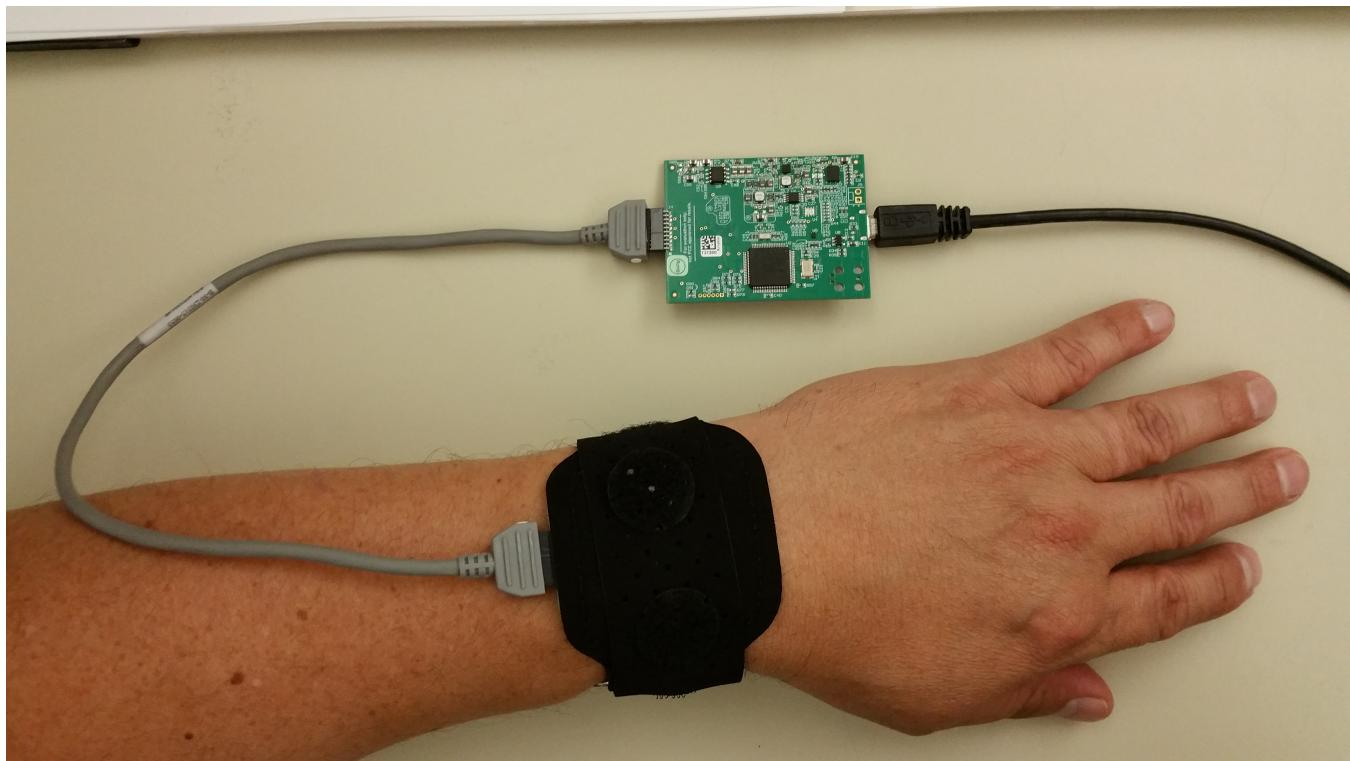
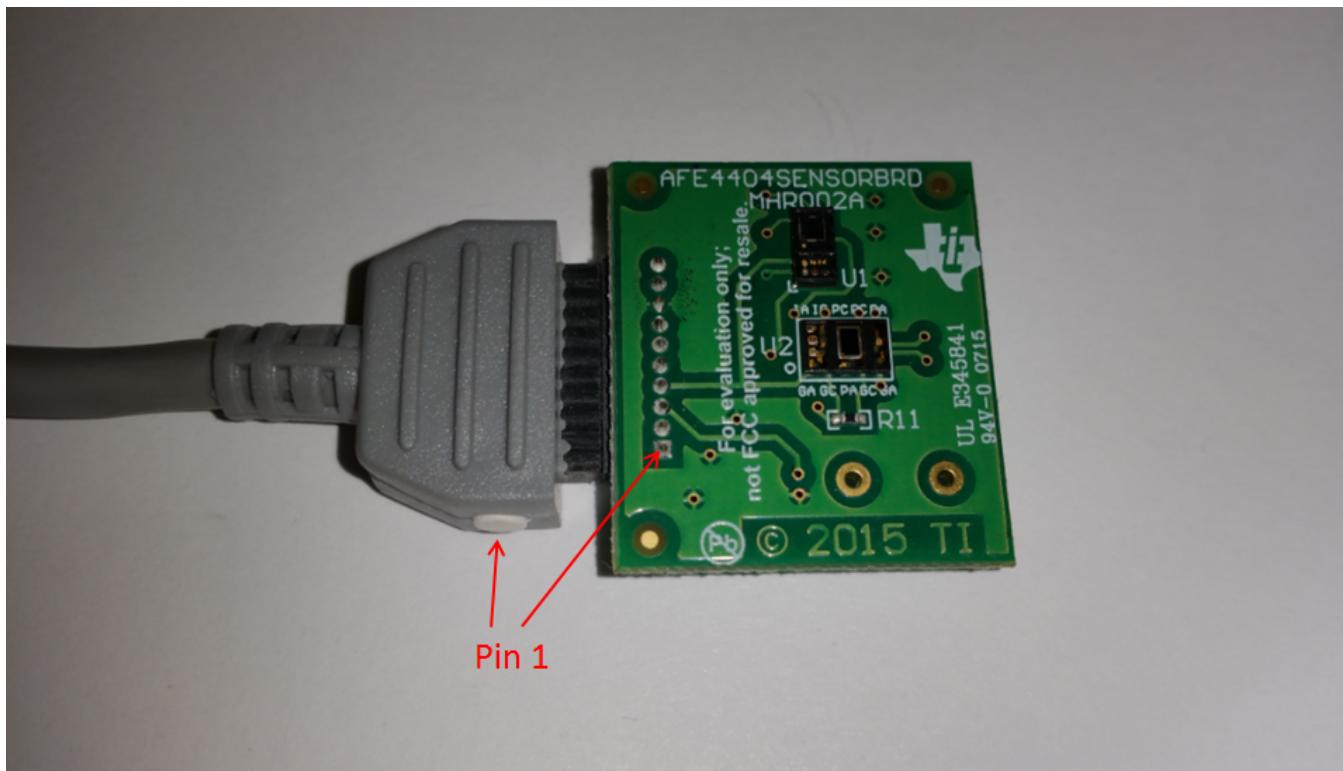
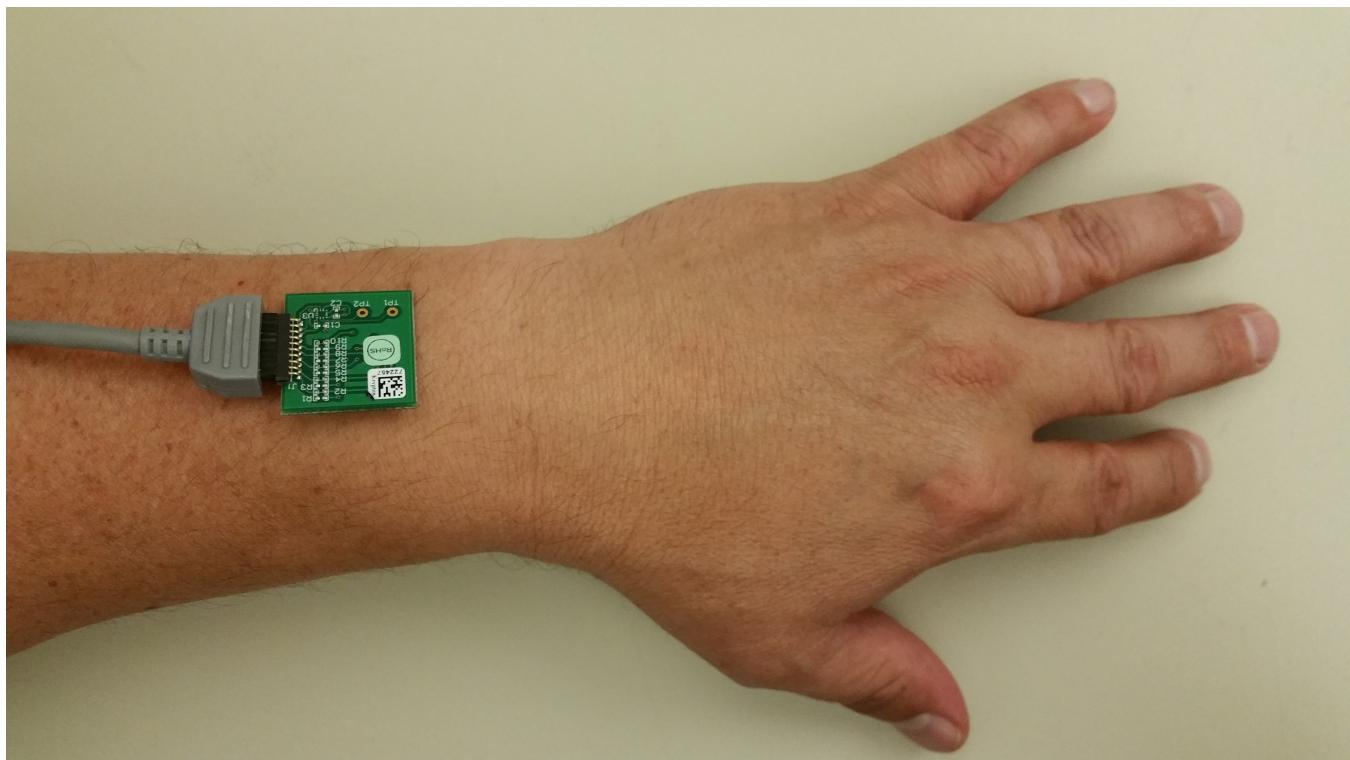

Figure 3. Setup for Obtaining Measurements from the Wrist
Figure 4. Pin 1 Connections
Figure 7. Setting Sensor Board on the wrist
- (c) Place the sensor side of the sensor board on the wrist and tie it snugly. Figure 3 shows the sensor board being held with a velcro strap. Holding the sensor down with a finger is not recommended because a high level of motion noise is likely to occur due to small movements and changes in pressure.
Note: Figure 4 through Figure 7 help get to Figure 3.